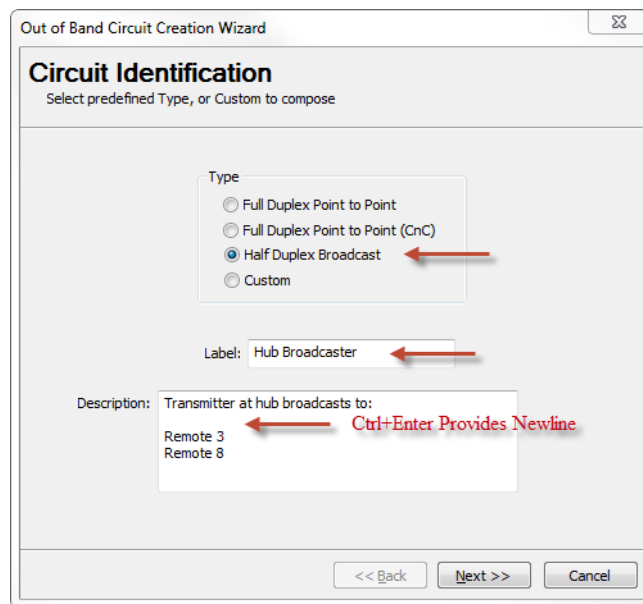

Figure 7-16 Circuit Identification, Half Duplex Broadcast
16. Right-click on the site icon that will be the transmitting source for the broadcast and select **Create OOB Circuit** from the drop-down menu to open the Circuit Creation Wizard. The **Circuit Identification** dialog will appear, as shown in figure 7-16.